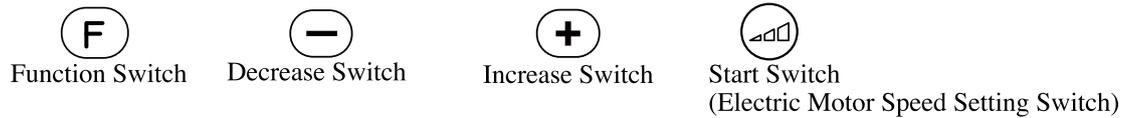

Fig.3-14 Function Switch
⑫ Function Switch (Fig.3-14) [E]